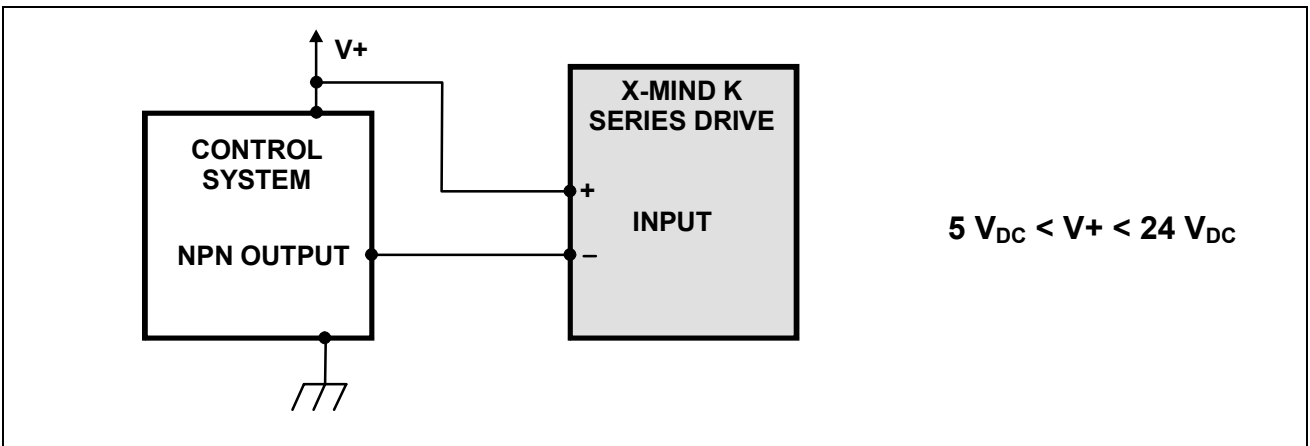

Fig. 10 – Driving a X-MIND K logic input from a control system with a NPN open collector output.
- Connect earth line to motor chassis. From the point of view of radio-frequency emissions shielding, it is usually sufficient the connection to machine chassis assured by mounting flanges and screws, as long as both screws and chassis are made of conductor material and the chassis is connected to earth. See Fig. 10.